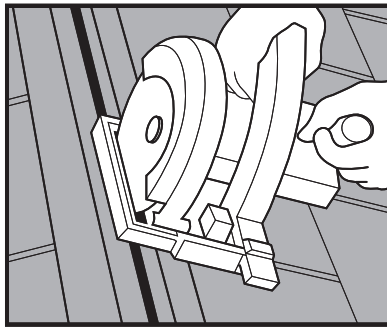

Fig. 1
- 2) For roofs with a ridge board, cut a $\frac{5}{8}$ " slot in the roof sheathing beyond each side of the ridge board. For an engineered truss roof, cut a $\frac{5}{8}$ " slot on each side of the ridge (total slot width of $1\frac{1}{4}$ "). See Figure 1.
IMPORTANT: Start and end your cut 6" in from the rake edges (snapping chalk lines will aid in keeping a uniform ridge opening). Set your saw depth to cut the decking only. Do not cut into the roof framing. See Figure 1.